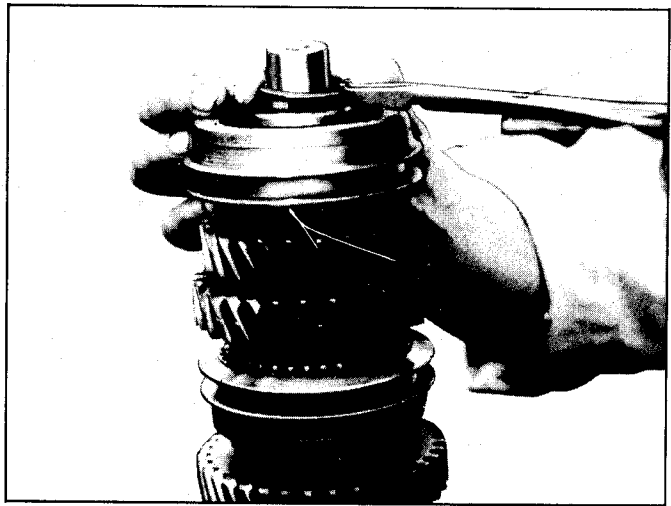

Fig. 7B-9K--Removing 3-4 Clutch Assembly Retainer
15. Using a dummy shaft J-24658 drive countergear shaft out of countergear (Fig. 7B-7K) and remove countergear and tanged thrust washers from case. Check bottom of case for pilot bearings or other loose components.